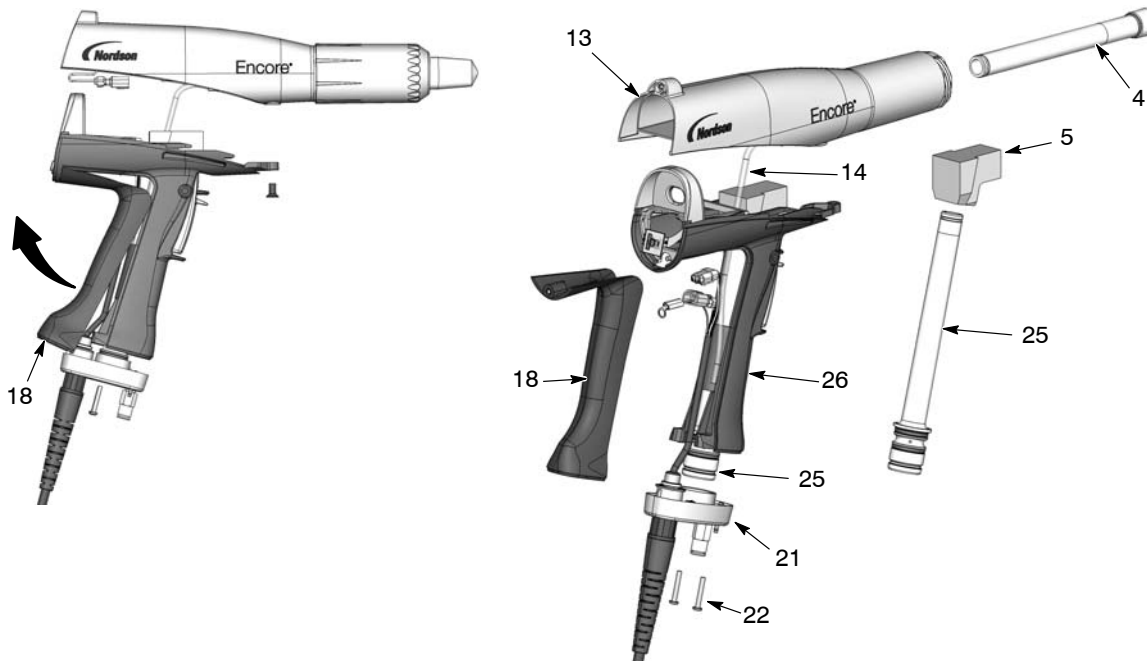

Figure 6-5 Powder Path Replacement
2. See Figure 6-5. Remove the elbow (5) from the inlet tube (25).
3. Remove the two M3 x 20 screws (22) from the handle base (21).
4. Pull the base away from the handle, then swing the bottom of the ground pad (18) up and away from the handle, then remove it. Leave the ground wire connected to the ground pad.
5. Push the inlet tube (25) up and out of the base, then move the base out of the way and pull the inlet tube out of the handle.
6. Push the outlet tube (4) out of the front of the gun body (13).
1. See Figure 6-5. Install the outlet tube (4) into the gun body (13), with the end of the tube flush with the end of the gun body.
2. Install the inlet tube (25) into the handle (26), then install the end of the tube into the handle base (21).